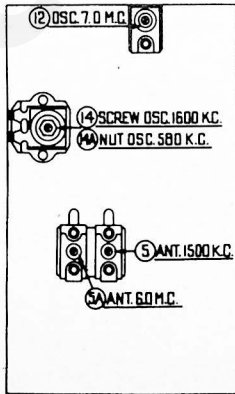

Fig. 3—R.F. Compensators Underside of Chassis
1. Set range switch in position No. 1 (Broadcast). Turn signal generator and receiver dials to 1600 K. C. Then adjust (14) Osc. "Screw", and (5) antenna for maximum output.
2. Turn signal generator and receiver dials to 580 K. C. and adjust compensator (14a) Osc. "nut"—see Fig. 3—as follows: To adjust compensator (14a) the tuning condenser must be rolled for maximum output, thusly: First turn the compensator (14a) for maximum output. Then vary the tuning condenser for maximum output about 580 K. C. Now retune compensator (14a) and again vary the tuning condenser back and forth about the 580 K. C. dial mark for maximum output.